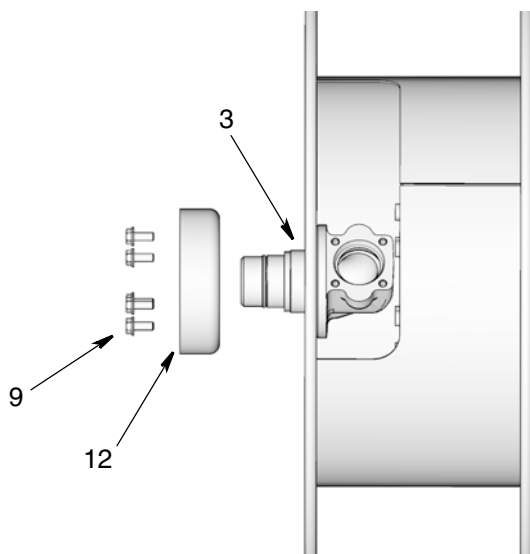

FIG. 33
2. Install brake hub (12) on inlet side of spool using bolts (9) (FIG. 33). Wrench tighten then torque to 25 to 35 ft. lbs (33.9 to 47.45 N.m).